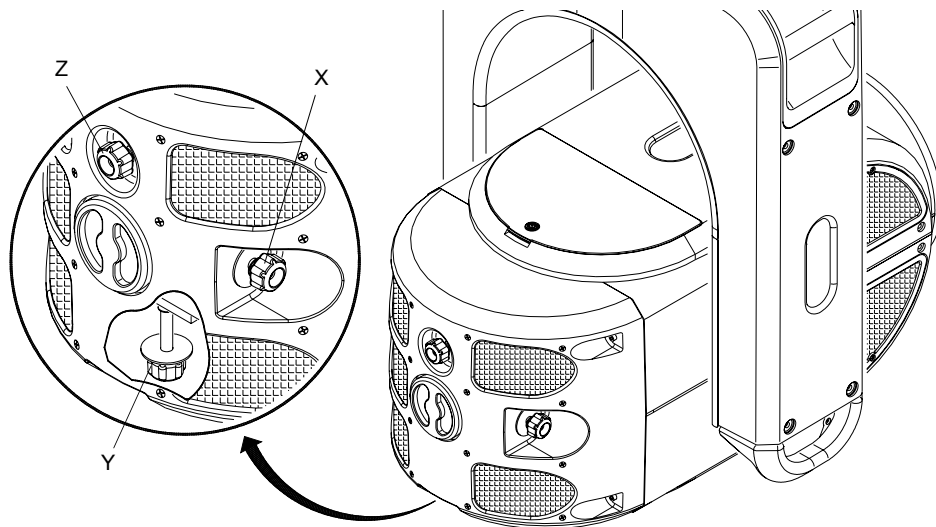

Figure 4-9: Adjusting the Lamp
- Step 5. At backcap, using horizontal (X) and vertical (Y) knobs, adjust hot spot to center of beam (Figure 4-9.)
- Step 6. Using focus (Z) knob, adjust beam to flatten hot spot.